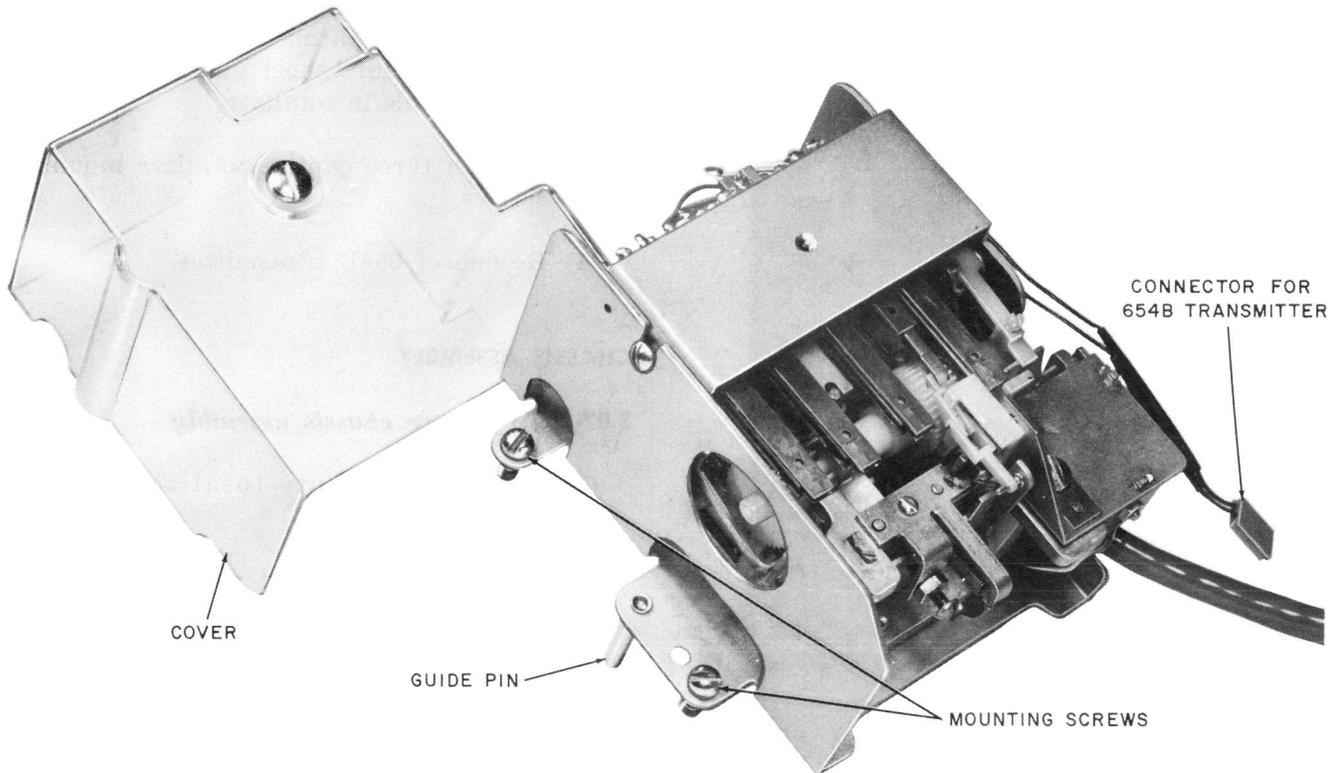

Fig. 3 — Totalizer
- (1) Disconnect 654B transmitter by separating connector (Fig. 3).
- (2) Remove three totalizer mounting screws from chute. (These are captive screws and will not fall out of totalizer.)
- (3) Carefully remove totalizer from chute.